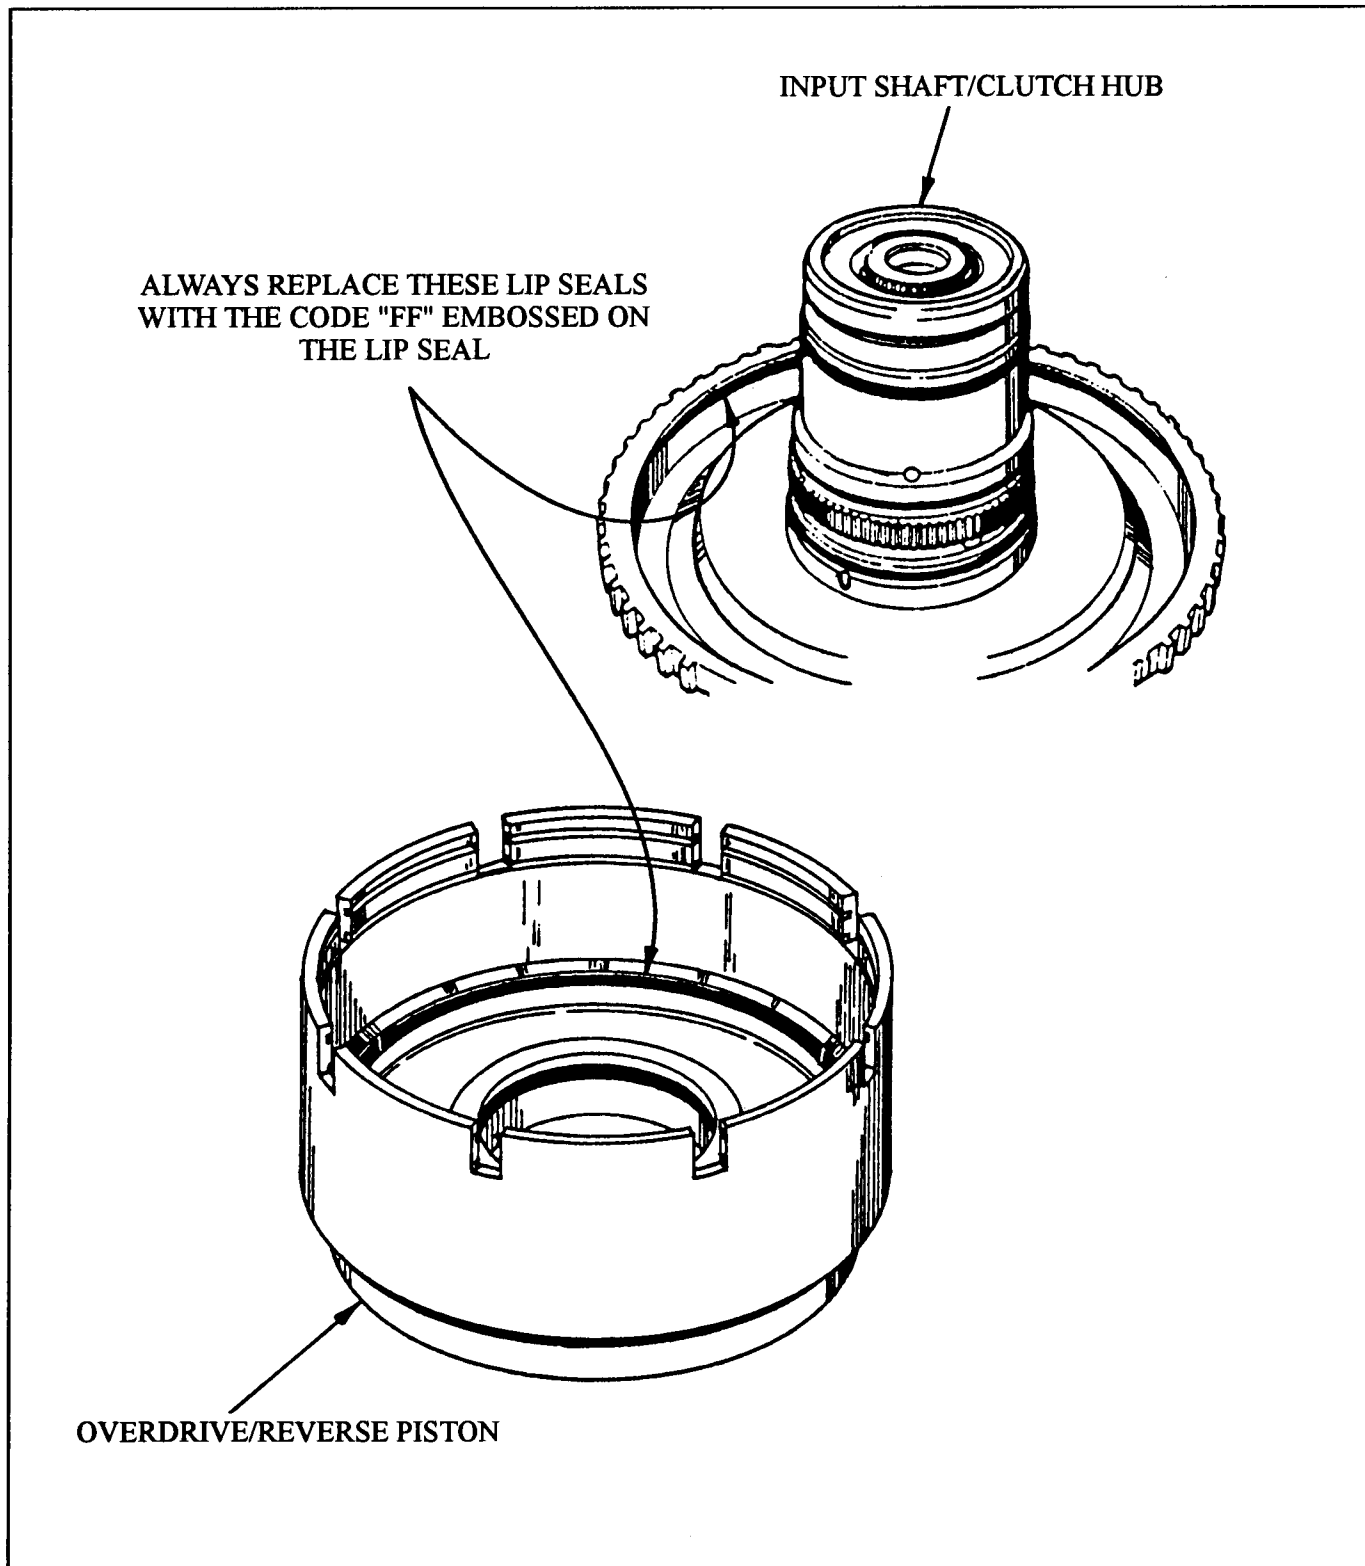

Figure 6
CHANGE: The lip seals in the Overdrive/Reverse Clutch Piston and the Input Shaft/Clutch Hub are now replaced with lip seals made of different material (See Figure 6).
- (1) OD/REVERSE PISTON LIP SEAL - No dimensional changes, but the material changes, and the new lip seals can be identified by the code "FF" embossed into the seal. The old lip seal is embossed with the code "IPC", and should not be used (See Figure 6).
- (2) INPUT CLUTCH HUB OUTER LIP SEAL - No dimensional changes, but the material changes, and the new lip seals can be identified by the code "FF" embossed into the seal. The old lip seal is embossed with the code "IPC", and should not be used (See Figure 6).